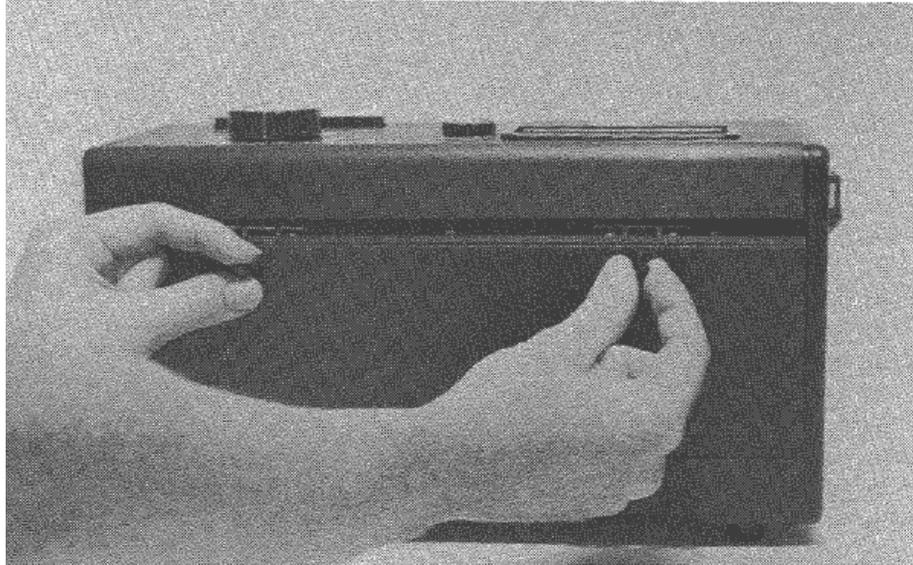

Figure 5. Removing the sidepanel
Step 2. Remove the aerosol inlet sidepanel of the PIEZOBALANCE by pulling up on the small nylon locks (Figure 5).